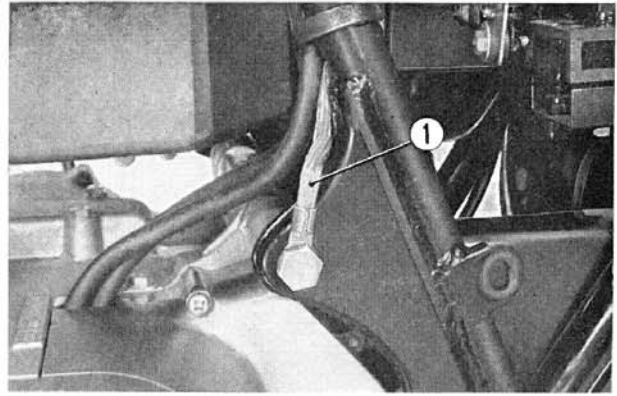

Fig. 2-7 ① Ground cable
2. Install the hanger bolts and nuts and exercise care that the ground cable terminal is installed together with the engine rear upper bolt (**Fig. 2-7**). The hanger plate and the stop switch stay are also mounted with the hanger bolts.